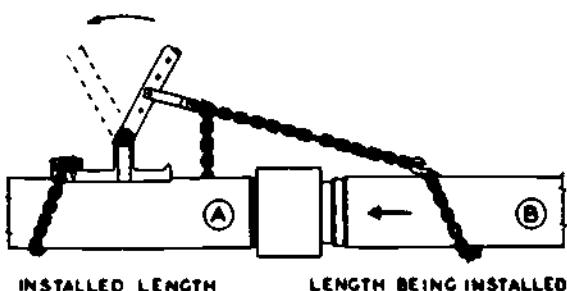

Figure 1-76. Lever Puller
- a) The lever puller shown in Figure 1-76 is used to pull pipes together. It is chained to installed pipe A, the puller chain is wrapped around length B being installed, and the handle is then pulled forward to pull the pipe into the coupling.